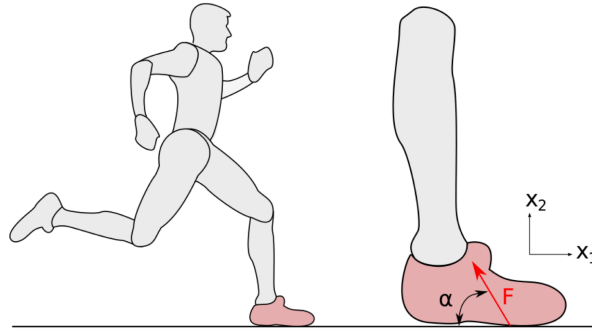

Figure 1: Running human
1.1.b) The foot of a running human is exposed to a force from the ground, as is seen in Figure 1. Let's say the stress matrix corresponding to a point on the foot where the foot hits the ground is assumed to be:
**§1.1.b) The foot of a running human is exposed to a force from the ground, as is seen in Figure 1. Let's say the stress matrix corresponding to a point on the foot where the foot hits the ground is assumed to be:**